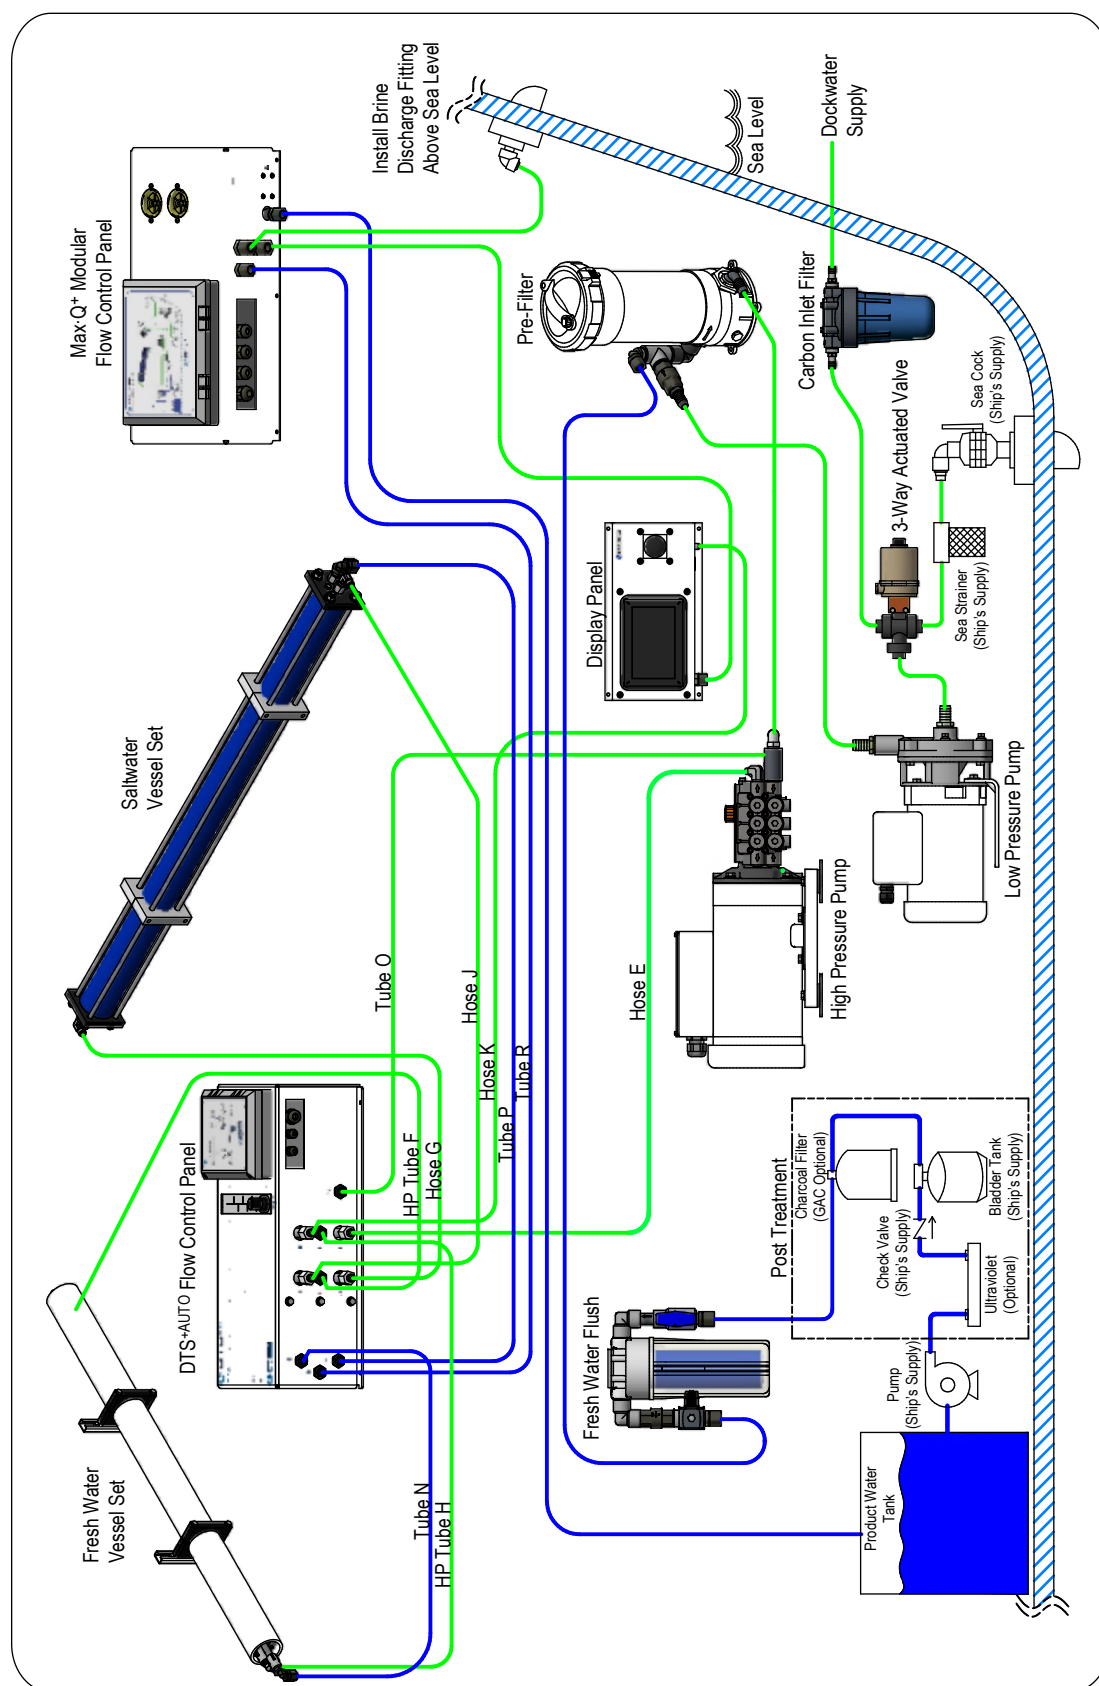

Figure 28: Max•Q+ Modular 700 GPD with DTS+AUTO
- "Figure 28: Max•Q+ Modular 700 GPD with DTS+AUTO" on page 50